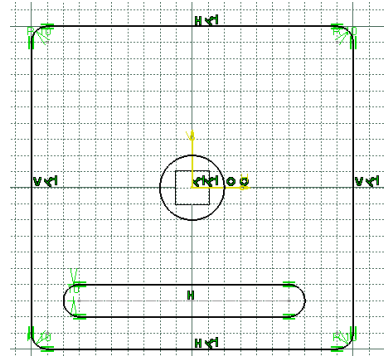

Figure 3-58 The sketch after drawing the elongated hole
6. Move the cursor vertically upward and click to specify a point on the elongated hole when the radius value is displayed as **10** in the **Radius** edit box. Figure 3-58 shows the sketch after drawing the elongated hole.